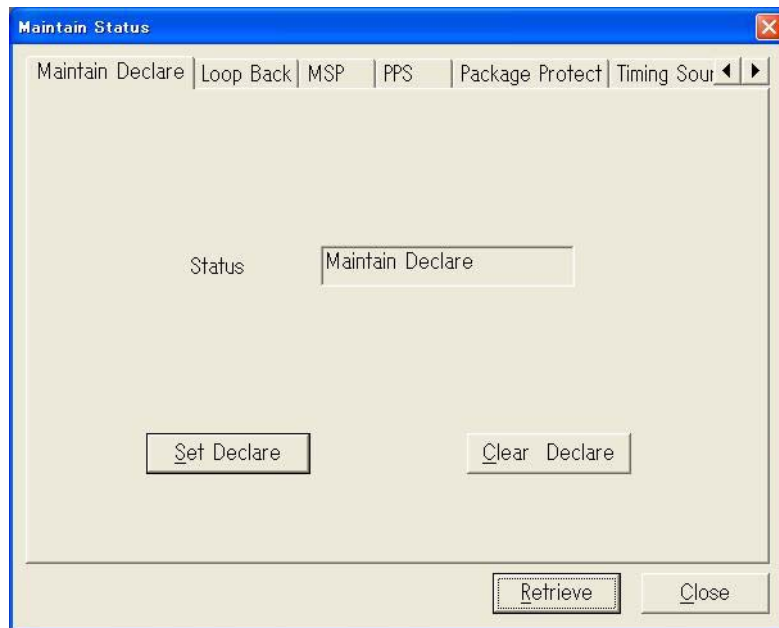

Fig. 4-9-1 Maintain Status Dialog Box
- 2 Select **View Maintain Status** from Maintenance menu, the **Maintain Status** menu will appear. Its appearance is shown in *Fig. 4-9-1*.